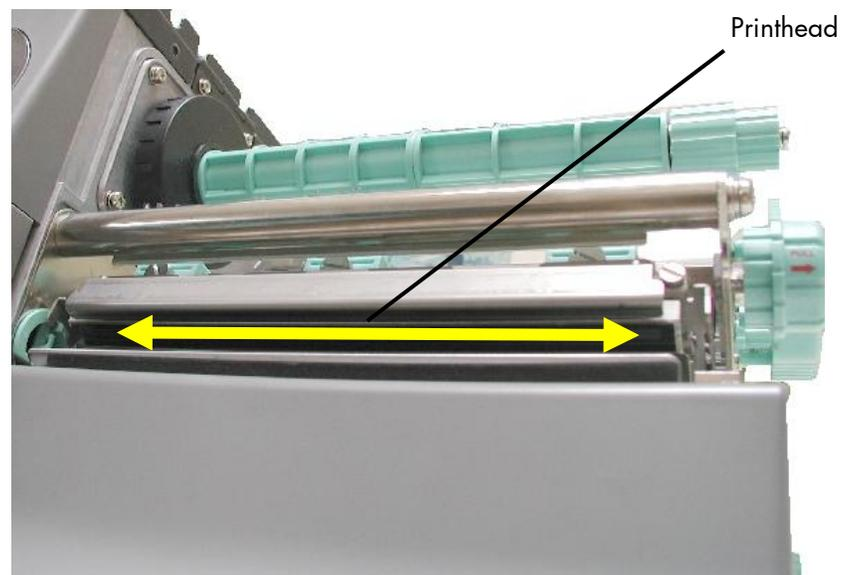

Fig. 11.1.2.a Cleaning the printhead
- Move the cloth or pen along the print area of the printhead (see figure 11.1.2.a). This working step requires light pressure and has to be repeated several times.